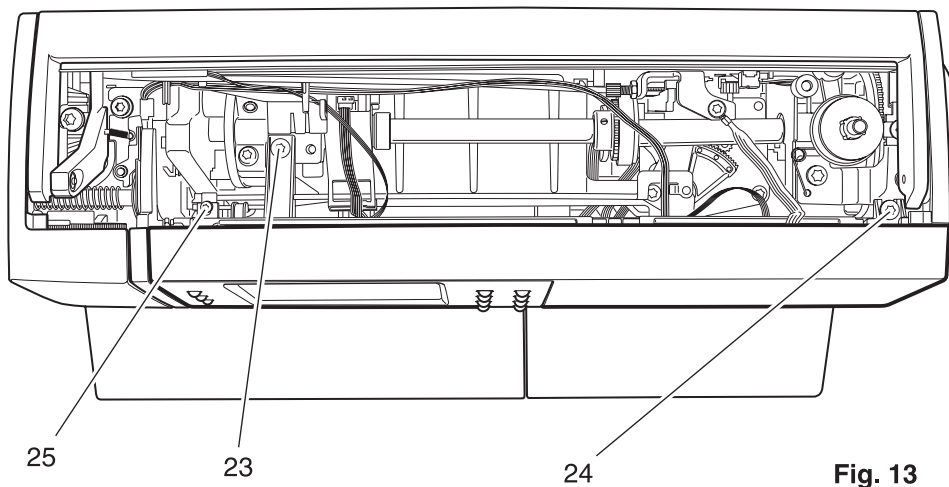
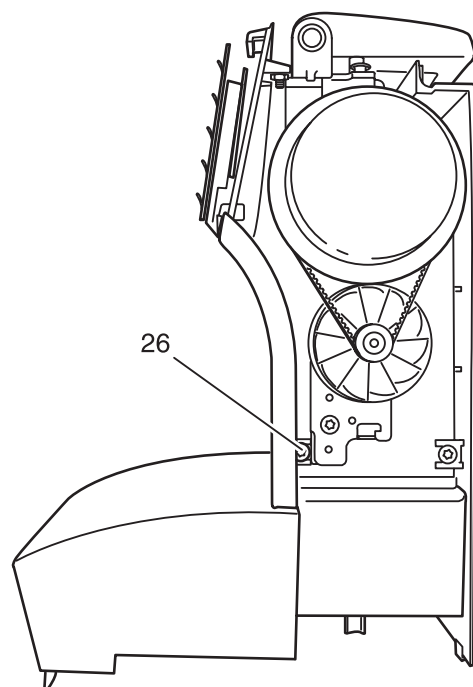

Fig. 13
Fig. 14
- Loosen fastening screws 23, 24 and 25 (fig. 13) as well as fastening screw 26 (fig. 14).